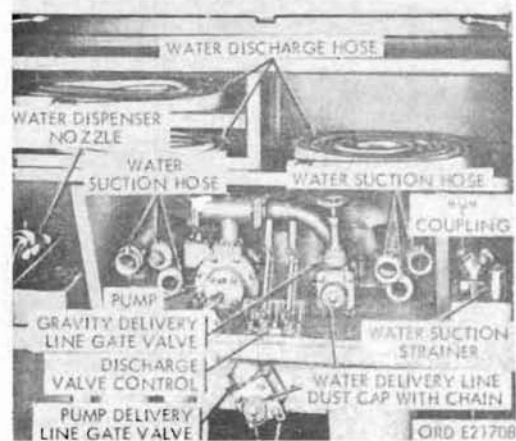
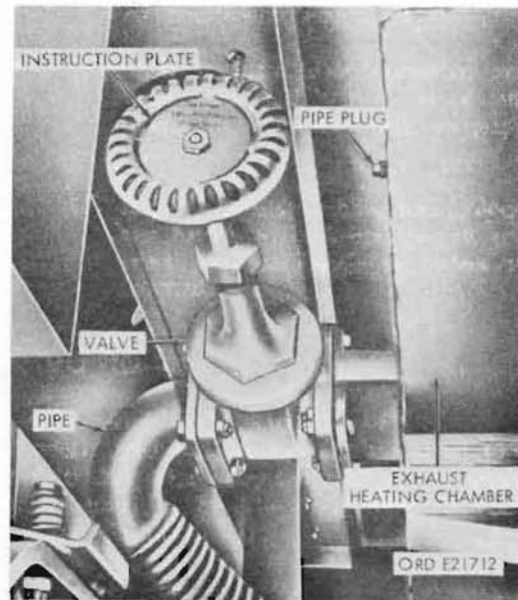
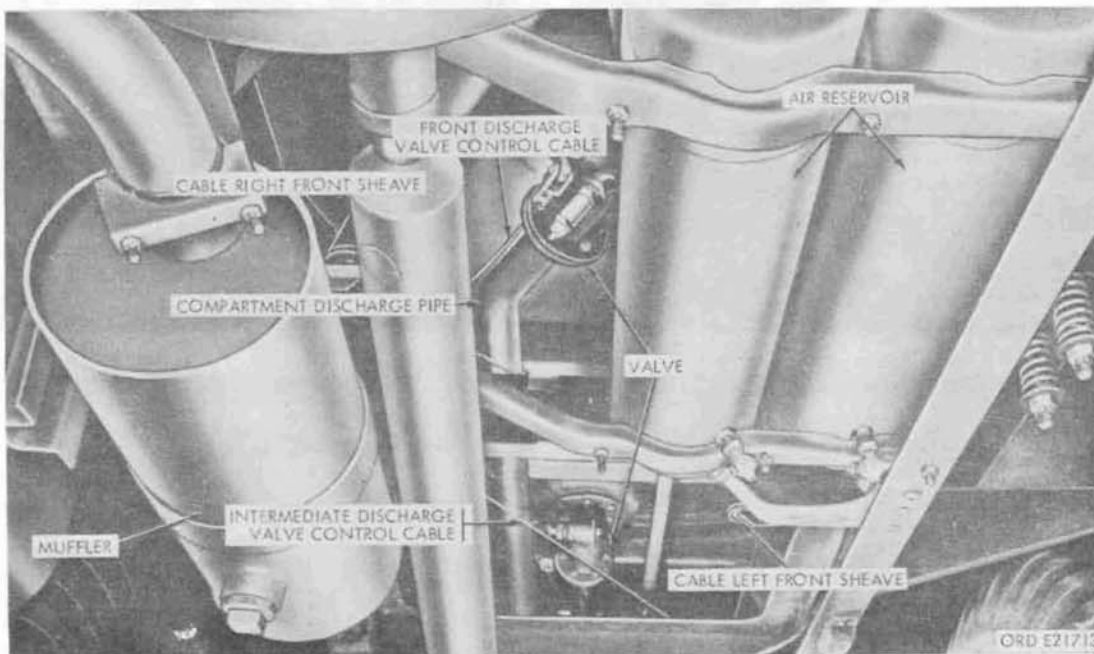

Figure 273. M50 and M50A1 delivery pump and discharge valve controls
Figure 277. M50 exhaust bypass fording valve
Figure 278. Discharge valve - removal and installation
a. Description. The M50 and M50A1 trucks are equipped with an aluminum tank of double-shell construction with insulation between the shells. The tank is divided into two compartments; one 400-gallon compartment, and one 600-gallon compartment. Each compartment has a manhole and a filler opening with covers. The filler openings have strainers to prevent solids from entering the tank compartments. Each tank compartment discharges water through a discharge valve into the tank drainpipe located underneath the tank. Valves are operated from the discharge valve control (fig. 273) located in the equipment compartment built into the rear of the tank body. An exhaust heater chamber on the underside of the body protects the discharge valves and drainpipe during freezing temperatures. Exhaust gases are brought from the exhaust bypass valve, located just ahead of the muffler, through the exhaust bypass fording valve into the front end of the chamber. Water leaving either tank compartment enters the drainpipe and passes to a T-connection on the delivery pump suction pipe in the equipment compartment where it can be dispensed through the gravity delivery-line gate valve or fed through the suction line into the delivery pump. The pump discharges water under pressure through the pump delivery-line gate valve located under the equipment compartment. Power to operate the pump is obtained from the transfer power takeoff through the delivery pump front and rear drive shafts located under the tank body.
b. Exhaust Bypass Fording Valve (Fig. 277).
- (1) **Removal.** Remove eight safety nuts and screws holding fording valve to mounting flange on exhaust heating chamber and to flange on bypass fording valve pipe, and remove fording valve. Discard gaskets.
- (2) **Installation.** Position new exhaust bypass fording valve gaskets on valve,
c. Exhaust Bypass Fording Valve Pipe (Fig. 277).
- (1) **Removal.** Remove four safety nuts and screws holding fording valve pipe to exhaust bypass fording valve, and remove pipe and gasket from valve. Discard gasket.
- (2) **Installation.** Position new gasket on pipe and install pipe on bypass fording valve with four hex-head screws and safety nuts.
- (1) **Removal.** Remove safety nuts and six screws holding the cover of exhaust heating chamber (fig. 277) on underside of body, and remove cover. Loosen nut (fig. 278) securing valve cable bolt on discharge valve control cable yoke,
- (2) Installation. Position new discharge-valve-to-tank and discharge-valve-to-tank-drain-pipe gaskets on valve. Install discharge valve on tank compartment with six safety nuts and on tank drain pipe with six hex-head screws, lockwashers, and safety nuts. Install end of the cable in valve cable bolt on valve yoke and tighten hex-nut on bolt to secure cable. Install exhaust heating chamber cover (fig. 277) on underside of body with six hex-head screws and safety nuts.
b. Discharge Valve Control (Fig. 273).
- (1) Removal. Loosen nuts securing discharge valve cables in valve cable bolts, and remove cables from valve control operating levers. Remove six safety nuts and lockwashers securing valve control to body, and remove control.
- (2) Installation. Install control on body with six hex-head screws and safety nuts. Install valve cables in valve cable bolts on control operating levers, and tighten hex-nuts on bolts to secure cable. Cables must be of correct length to allow valves to close completely just before levers reach forward end of their travel.
- (1) Removal. Loosen nut securing valve cable bolt on discharge valve control operating lever (fig. 277) and remove wire cable from discharge valve control. Loosen nut (K) securing the valve cable bolt (H) on discharge valve control cable yoke (U) and remove wire cable from discharge valve. Remove wire cable from truck frame and body.
- (2) Installation. Install wire cable in truck body extending from discharge valve control in equipment compartment (fig. 273) down through the truck frame to discharge valve (fig. 278) on bottom of rear compartment. Install end of wire cable in cable bolt (H) on valve control cable yoke (J) and secure to yoke by tightening hex-nut (K) on bolt. Install other end of cable in cable bolt on valve control operating lever and secure to lever by tightening hex-nut on bolt. The cable must be of such length that discharge valve closes just before operating lever reaches forward end of its travel. Figure 280 shows routing of discharge valve cables.